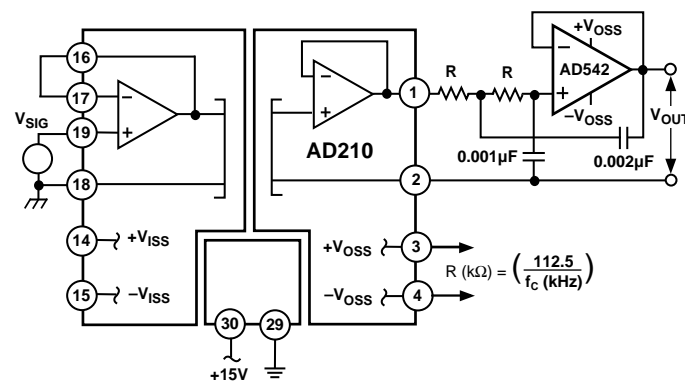

Figure 17. 2-Pole, Output Filter
**Noise Reduction in Data Acquisition Systems:** Transformer coupled isolation amplifiers must have a carrier to pass both ac and dc signals through their signal transformers. Therefore, some carrier ripple is inevitably passed through to the isolator output. As the bandwidth of the isolator is increased more of the carrier signal will be present at the output. In most cases, the ripple at the AD210's output will be insignificant when compared to the measured signal. However, in some applications, particularly when a fast analog-to-digital converter is used following the isolator, it may be desirable to add filtering; otherwise ripple may cause inaccurate measurements. Figure 17 shows a circuit that will limit the isolator's bandwidth, thereby reducing the carrier ripple.